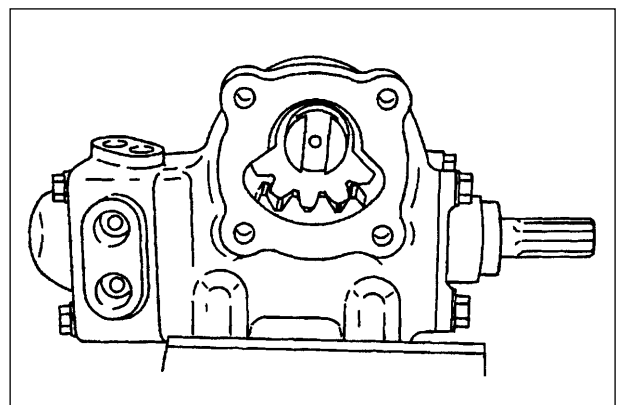

Fig. 3.336
- ③ Rotate the worm shaft so that the sector shaft teeth are positioned as shown in Fig. 3.336. Remove the sector shaft by tapping gently on the serrations of the sector shaft with your hand.